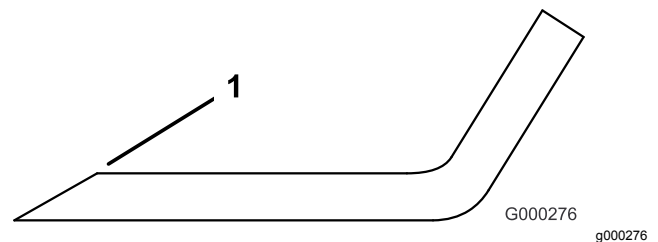

Figure 33
3. Examine the cutting edges of all blades. Sharpen the cutting edges if they are dull or nicked. Sharpen only the top side of the cutting edge and maintain the original cutting angle to ensure sharpness (Figure 33). The blade will remain balanced if the same amount of metal is removed from both cutting edges.